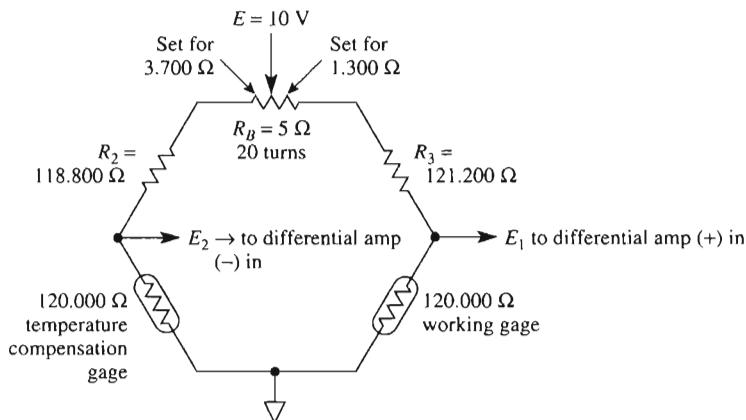

FIGURE 8-14 Balance pot R_B is adjusted in an attempt to make $E_1 - E_2 = 0\ \text{V}$.
Suppose that you had a working gage and temperature-compensation gage in Fig. 8-14 that are equal to within $1\text{ m}\Omega$. To complete the bridge, you install two 1%, 120- Ω resistors. One is high by 1% at 121.200 Ω and one is low by 1% at 118.800 Ω . They must be equalized to balance the bridge. To do so, a 5- Ω , 20-turn balancing pot is installed, as shown in Fig. 8-14. Theoretically, the pot should be set as shown to equalize resistances in the top branches of the bridge at 122.500 Ω .
Further assume that an instrumentation amplifier with a gain of 1000 is connected to the bridge of Fig. 8-14. From Example 8-10, the *output* of the instrumentation amplifier (IA) will be about 22 mV per milliohm of unbalance. This means that the 5- Ω pot must be adjusted to within 1 m Ω of the values shown, so that $E_1 - E_2$ and consequently V_o of the IA will equal 0 V \pm 22 mV.